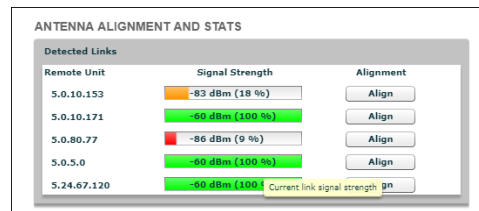

Figure 24. Configurator GUI (Antenna alignment and stats dialog)
- The **ANTENNA ALIGNMENT AND STATS** window will be shown (Figure 24 (page 69)).